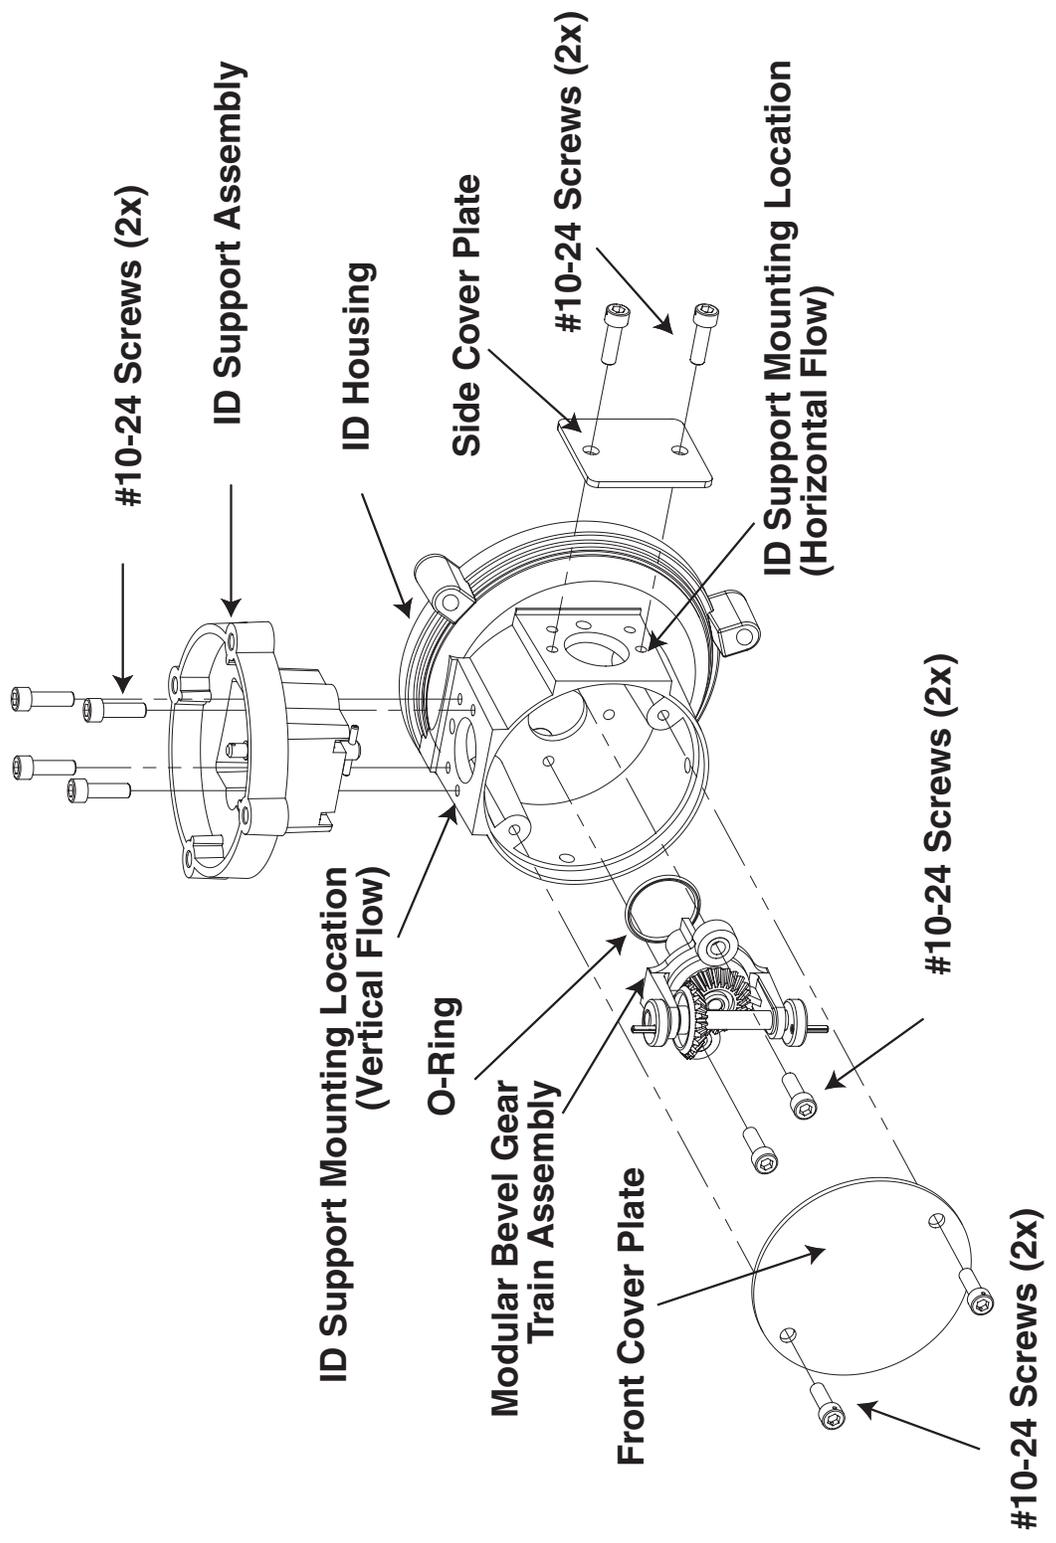

Figure 16 - Exploded View of Instrument Drive (ID) Assembly.
The following procedures are required to change the position of the instrument drive assembly. Refer to Figures 16 and 17 for component locations.
1. Using a 5/32” Allen wrench, remove the two #10-24 screws holding the Front Cover Plate onto the aluminum ID housing. Remove the cover plate. (Refer to Figure 16 for component identification.)